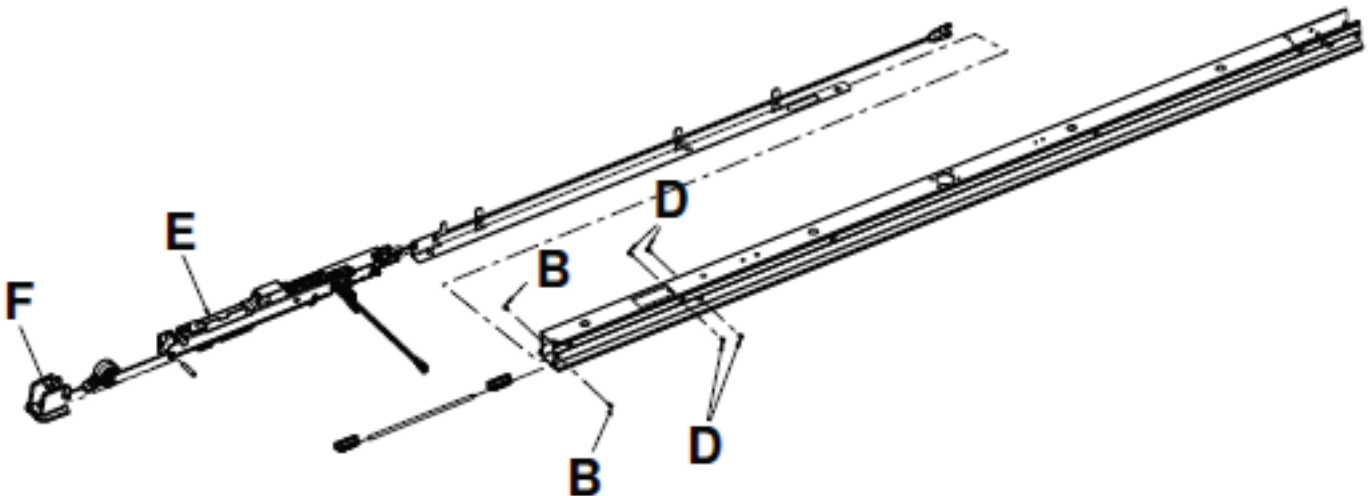

Figure 47 – Remove the anchor plunger assembly
5. Using a 1/8" hex wrench, remove one of the two flat head cap screws (B) that secure the release lever housing (F) to the anchor (Figure 47).
8. Using a 1/8" hex wrench, remove two of the four flat head cap screws (D) from one side of the anchor plunger assembly, mid (Figure 47). Save the screws.
9. Using the second 1/8" hex wrench, insert the wrench into the anchor pivot pin to remove the other two of the four flat head cap screws (D) (Figure 47). Save the screws.
11. Remove the anchor plunger assembly, mid (E) from the anchor (Figure 47).